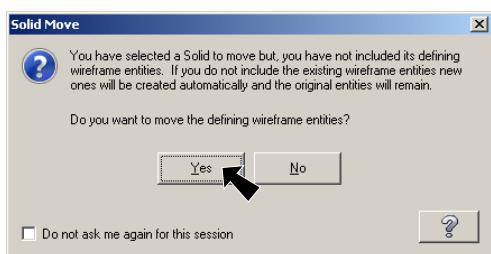

Fig. 42
- Step 5. Click Yes to move defining wireframe entities, Fig. 42.